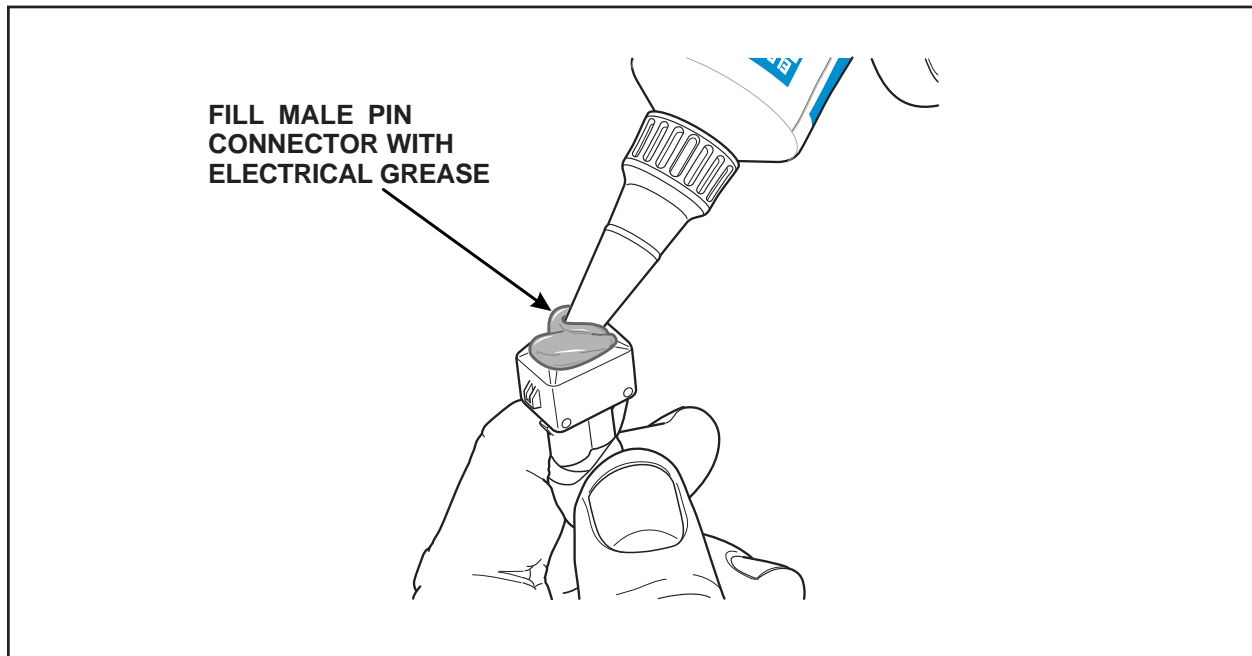

FIGURE 5
6. Before installing the adapter jumper harness, fill the vehicle harness end of the jumper (male pin connector end) with **Motorcraft Electrical Grease II (XG-15-A)** (See Figure 5).